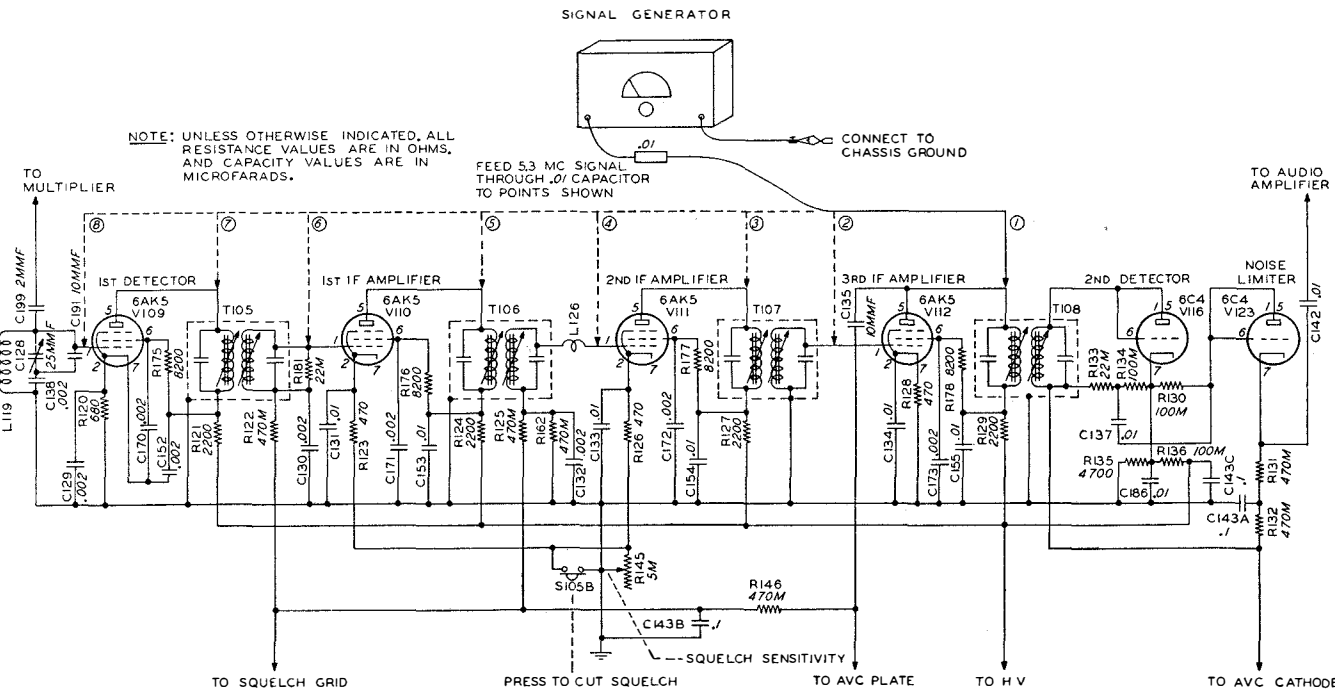

Figure 5-5—Trouble Locating in IF Amplifier, 1st and 2nd Detector, and Noise Limiter Stages
- d. Refer to figure 5-5 for the connecting points of the signal generator and the sequence of the connections. The inoperative stage will be between the point of no signal and the last point from which a signal was heard.